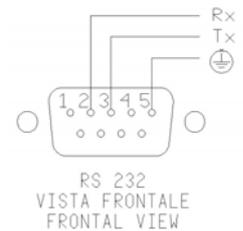

Fig.8
On the front of the calibrator there is a 9 pole socket (5) connected to the thermostat, which enables the calibrator to be completely controlled by a PC (reference to fig.8). The standard adopted RS-232 (contact the technical department for the communication number).